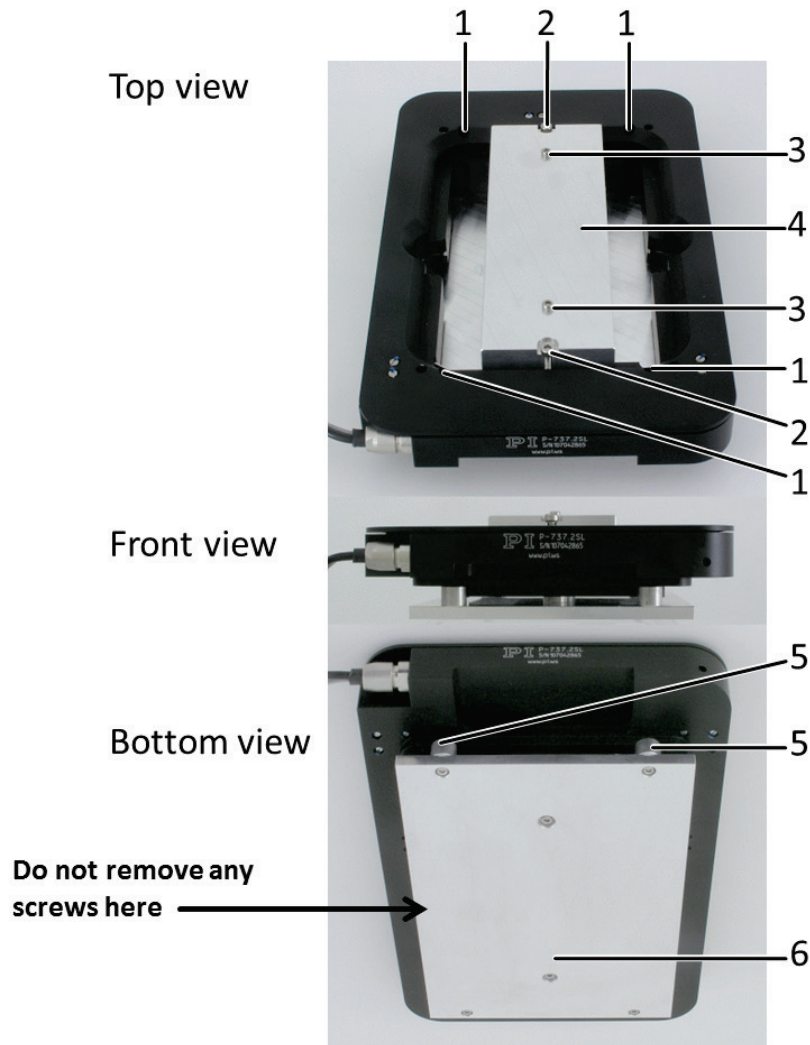

Figure 6: P-737 with transport lock affixed
- Use only M3x16 screws with the holes in the stage frame (2) to avoid damage to the stage, see Figure 6 below.